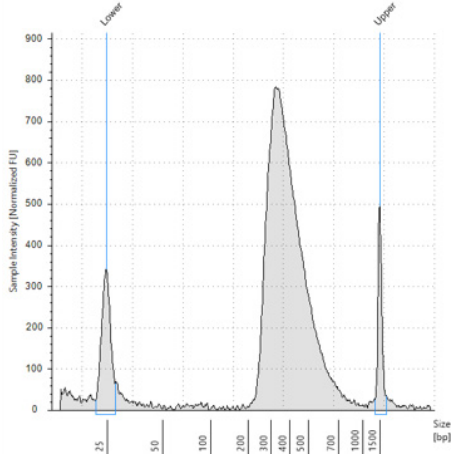
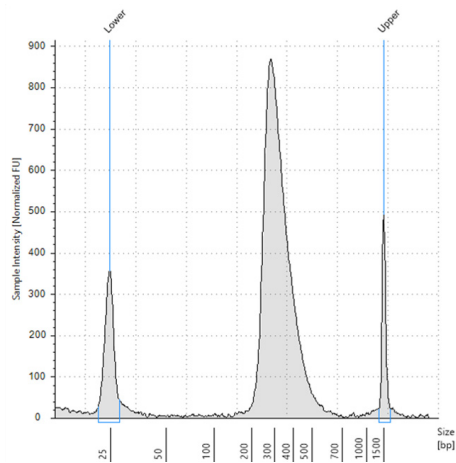

Figure 17 Post-capture library prepared from an intact RNA sample analyzed using a High Sensitivity D1000 ScreenTape assay
Figure 18 Post-capture library prepared from a typical FFPE RNA sample analyzed using a High Sensitivity D1000 ScreenTape assay
- 15 Verify that the electropherogram shows the expected DNA fragment size peak position (see **Table 78** for guidelines). Sample electropherograms are shown in **Figure 17** (library prepared from high-quality RNA) and **Figure 18** (library prepared from typical FFPE RNA).
Using manual preparation of the analytical samples, you can analyze the DNA samples on Agilent 2100 BioAnalyzer, Agilent 5200 Fragment Analyzer, or Agilent 4200/4150 TapeStation. Electropherograms obtained using one of these other analysis platforms are expected to show fragment size profiles similar to those shown for the Agilent 4200 TapeStation (see **Figure 17** and **Figure 18**). Verify that the electropherogram shows the expected DNA fragment size peak position (see **Table 78** for guidelines). **Table 79** includes links to assay instructions.